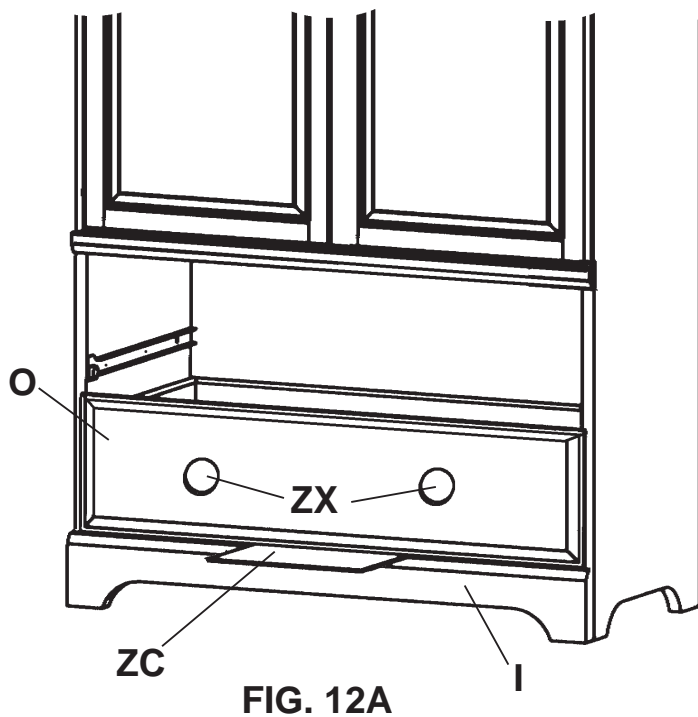

FIG. 12A
12) Install the bottom drawer in the unit. Make sure that the Knobs (ZX) are loose enough to allow the Drawer Face to move freely on the Drawer False Front. Adjust the bottom Drawer Face (O) on the Drawer False Front (P) so that it is centered side to side, and using the Spacer (ZC), 1/8" above the top of the Base (I). See FIGURE 12A. Tighten the Knobs (ZX) to eliminate any shifting of the Face. Insert four #8x7/8" LoProfile Screws (ZH) through the holes in the Drawer False Front (P) and fasten securely. See FIGURE 12B.